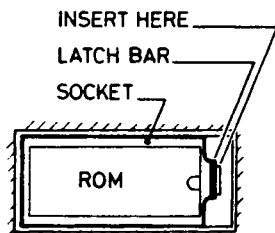
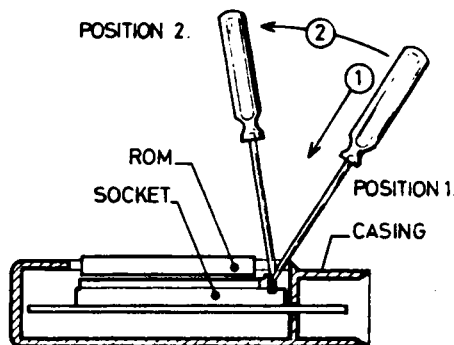

FIGURE 1
FIGURE 2
REFER TO FIGURES 1 & 2 WHILST READING THESE INSTRUCTIONS
- 1) With the module on a flat worksurface and the ROM outputs **UPWARDS**, insert a small, flat bladed screwdriver (a 1/10" blade is ideal) into the socket recess between the socket latchbar and the edge of the plastic cutout (see Figure 1). The screwdriver should be angled **AWAY** from the centre of the ROM (see Figure 2, Position 1).
- 2) GENTLY press the screwdriver downwards to free the latch mechanism. This requires no more than 1 to 2mm of movement (see Figure 2, Arrow 1).
- 3) Move the screwdriver towards the **VERTICAL** (Arrow 2, towards Position 2 in Figure 2). At about the Vertical position, there will be a "click" as the ROM is released from the latch. The ROM may also move up from the socket by a small amount.